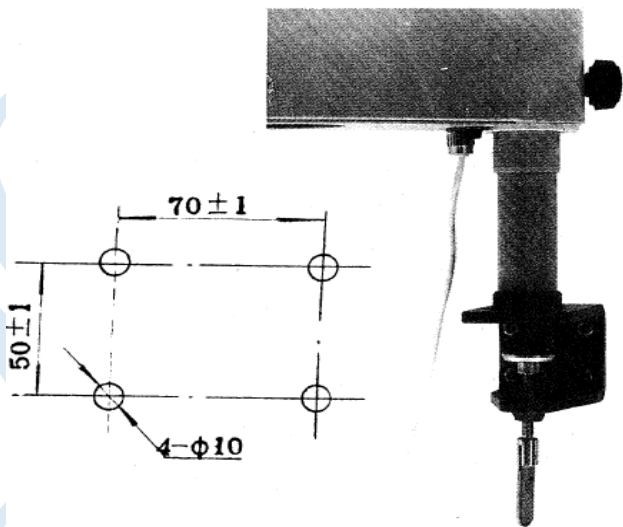

Fig10
2.6 The way to assemble the instrument on the wall (refer to Fig. 10)
- (1) Assembly with M6 inflation screw according to size requirement of Fig.10. Height is fixed according to the certain operation table.